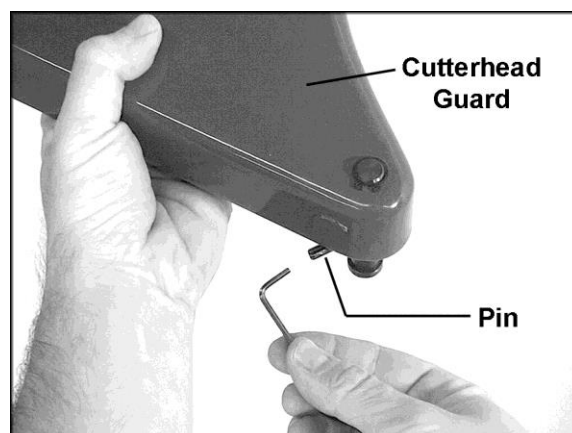

Figure 6-1
1. Insert a small hex wrench, or similar object, into the pin on the guard tension mechanism (Figure 6-1).